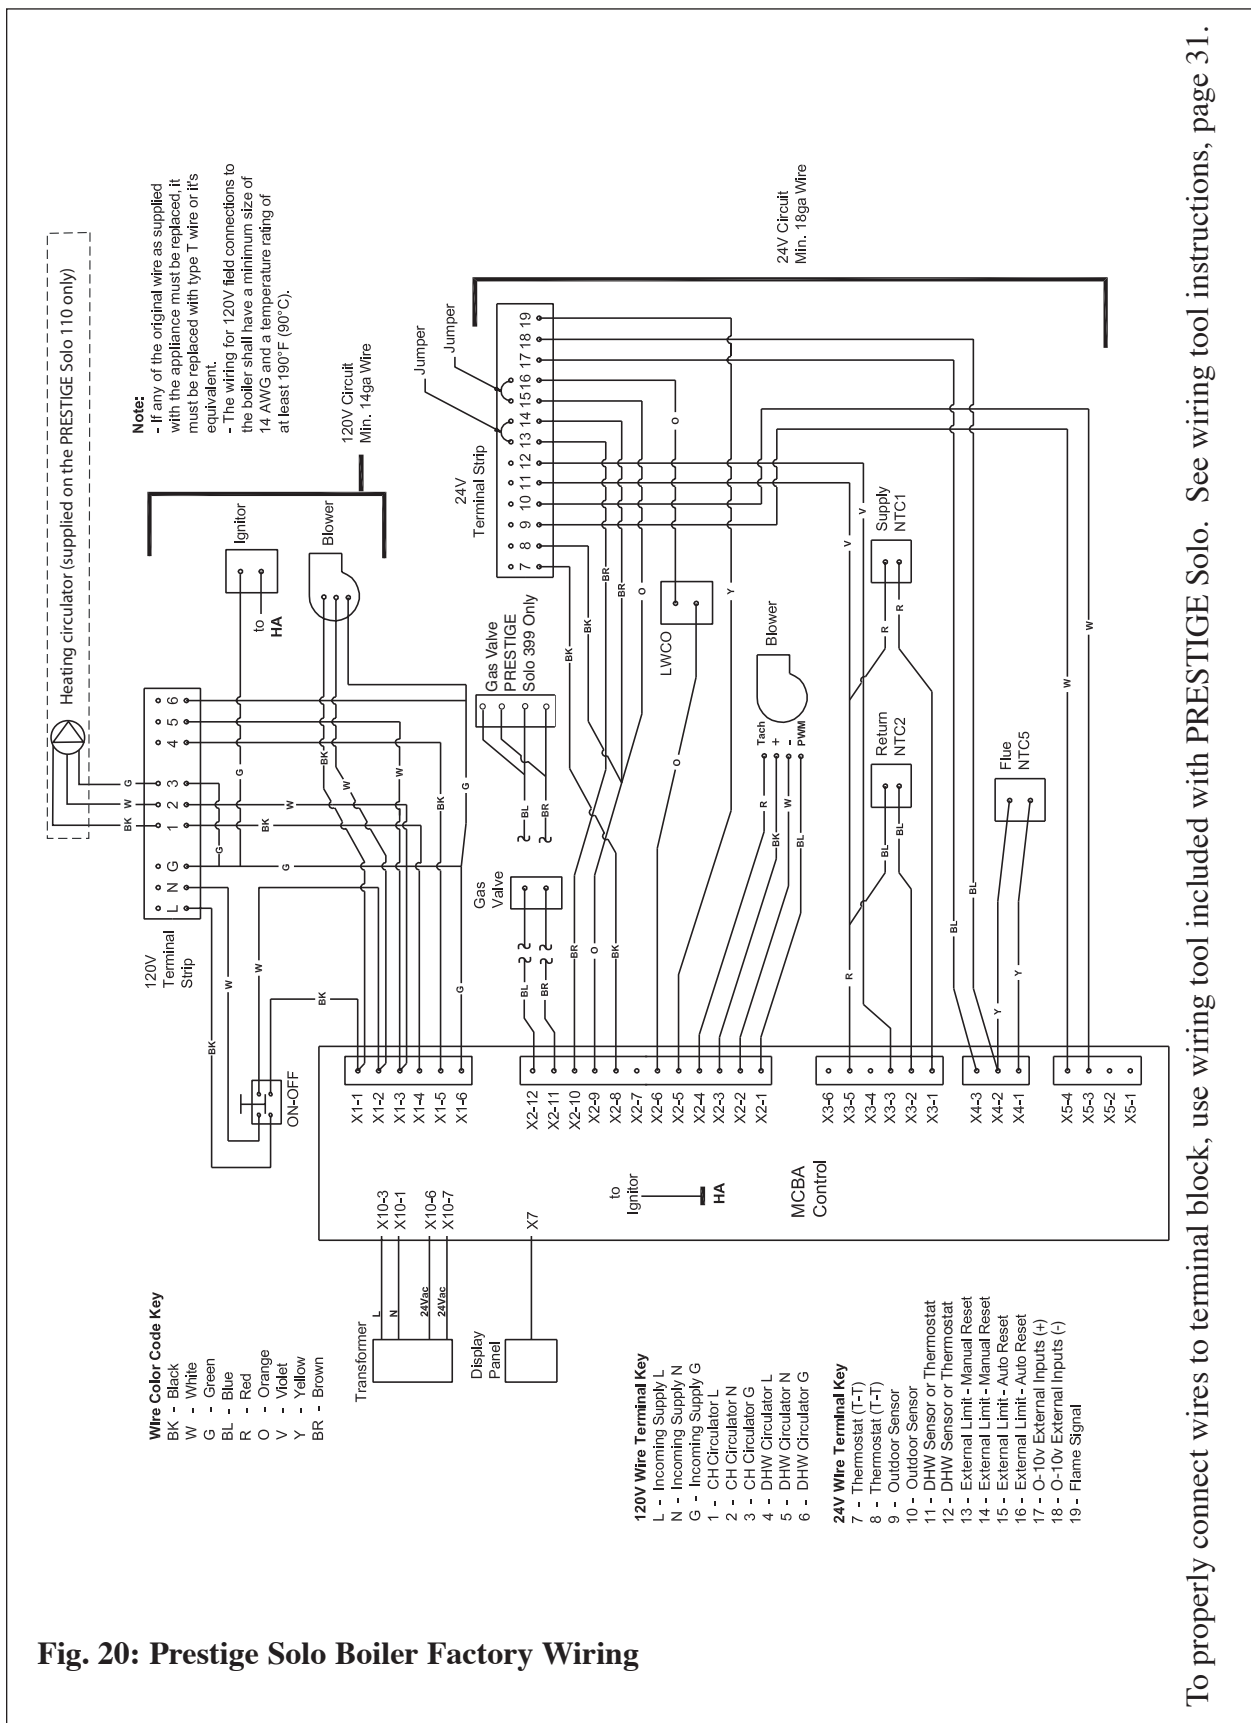

Fig. 20: Prestige Solo Boiler Factory Wiring
1. Connect a 120 VAC/15A service to the 120V terminal strip on the wiring panel below the PRESTIGE Solo control module, as shown in Fig. 20, page 32.
1. Connect the DHW thermostat (aquastat) to the 24V terminal strip on the wiring panel located below the PRESTIGE Solo control module as shown in Fig. 20, page 32.
1. Connect room thermostat or the end switch (isolated contact only) of a relay control panel to the 24V terminal strip on the wiring panel below the PRESTIGE Solo control module, as shown in Fig. 20, page 32.
1. Connect the CH primary circulator to the PRESTIGE Solo 120 V terminals 1,2 and 3 as shown in Fig. 20, page 32.
2. Connect the DHW circulator to the PRESTIGE Solo 120 V terminals 4, 5 and 6 as shown in Fig. 20, page 32.
The PRESTIGE Solo provides 24V terminal connections for additional limit controls as shown in Fig. 20 page 32. These limit terminal connections will provide a "hard" lockout requiring a manual reset of the PRESTIGE Solo control, or a "soft" lockout in which the PRESTIGE Solo will automatically reset.